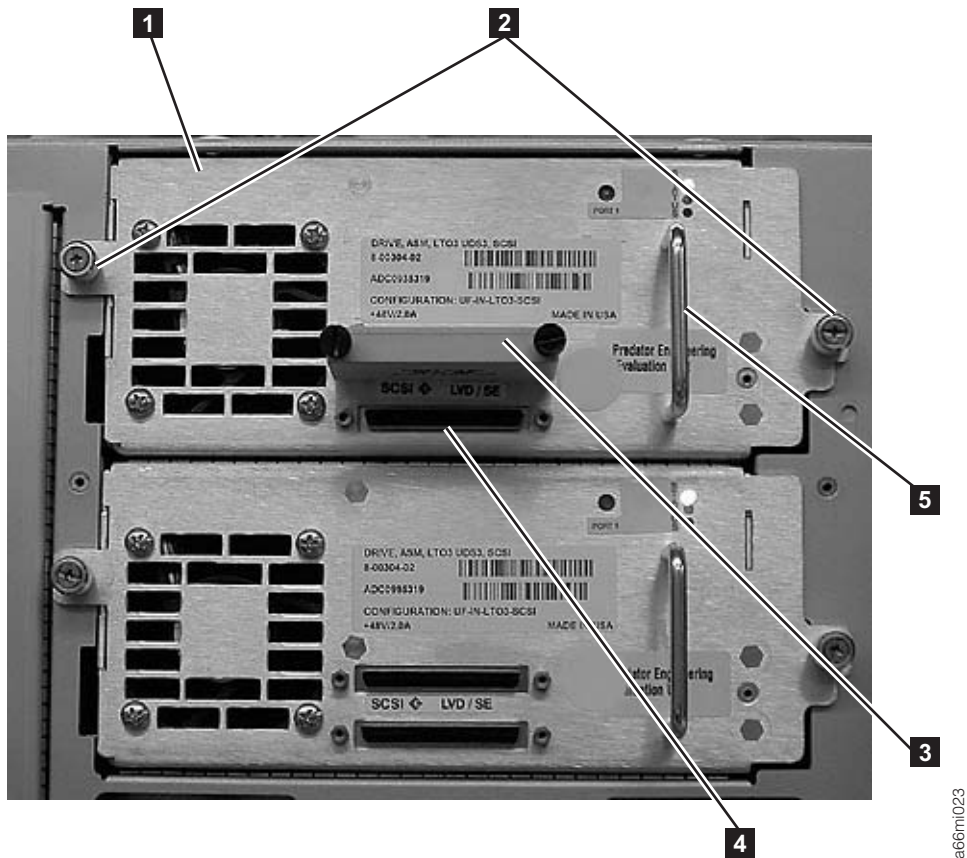

Figure 3-28. Tape Drive (detail)
2. Grasp the handle (5 in Figure 3-28 on page 3-29) and slowly slide the drive sled into the drive slot, while supporting the drive sled from underneath.
3. Tighten the two thumb screws (2 in Figure 3-28) that hold the drive sled in place by turning them clockwise.